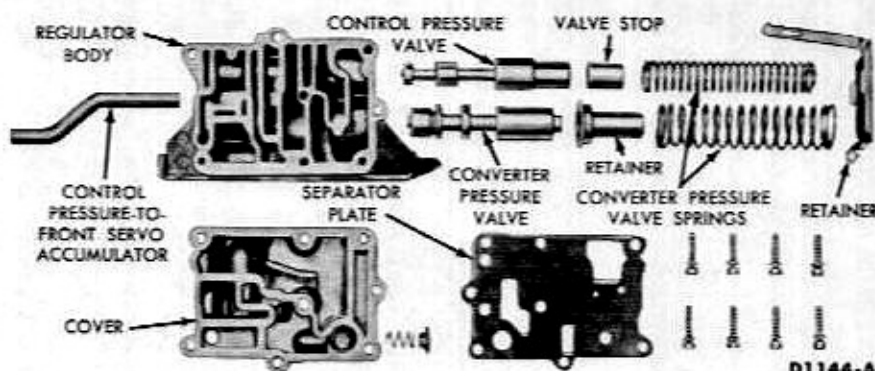

FIG. 19—Pressure Regulator
7. Inspect the control pressure and converter pressure valves (Fig. 19) and bores for burrs and scores. Remove all burrs carefully with crocus cloth.
13. Insert the valves in the pressure regulator body (Fig. 19).